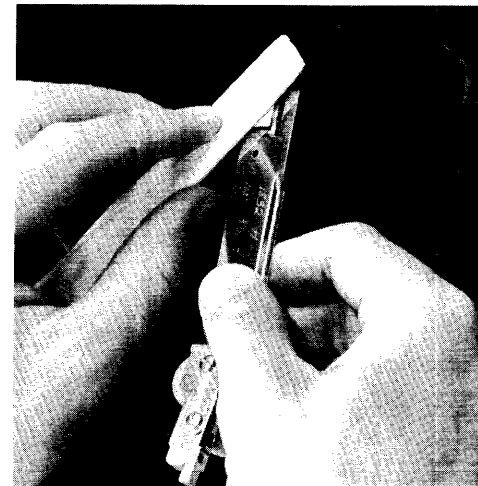

FIGURE 4-4. CLEANING HEADS OUT OF DRIVE
2. Gently scrub slider bearing surface with wetted end, paying special attention to leading and trailing edges and the relief slot. Figure 4-4 shows how to hold and clean the slider. Use **only** sufficient pressure against the slider to clean it and then dry it. Excessive pressure **will** damage the slider pitch and roll attitude adjustments.